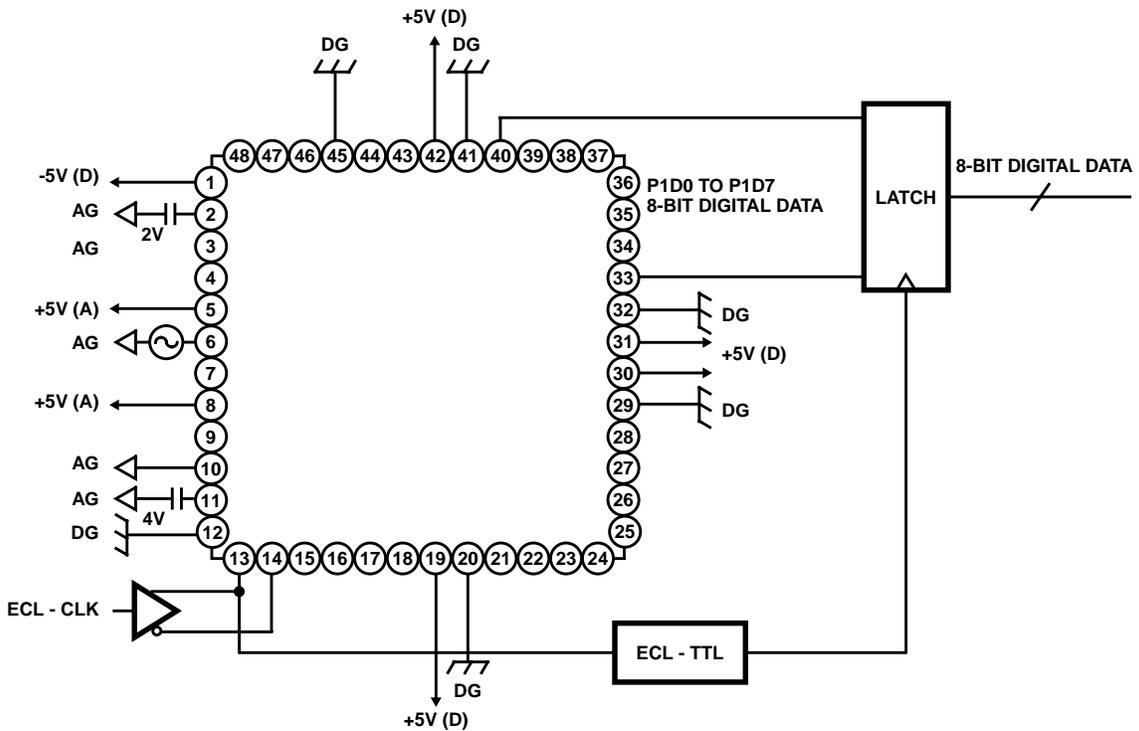

FIGURE 21. STRAIGHT ECL INPUT
**Straight Mode (See Application Circuits, Figures 21, 22, 23)**